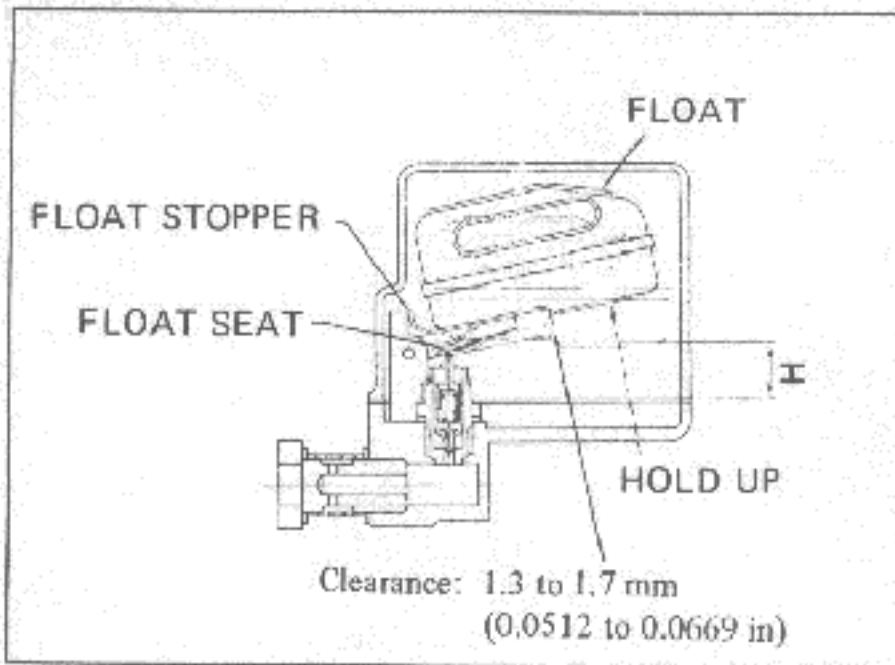

Fig. EF-17 Adjusting float level
- Turn down the float chamber to allow the float coming into contact with the needle valve, and measure "H" shown in Figure EF-17. When the "H" is approximately 12.0 mm (0.472 in), top float position is correct. The top float position can be adjusted by bending float seat. Upon completion of the adjustment, check oil level with the attached level gauge.